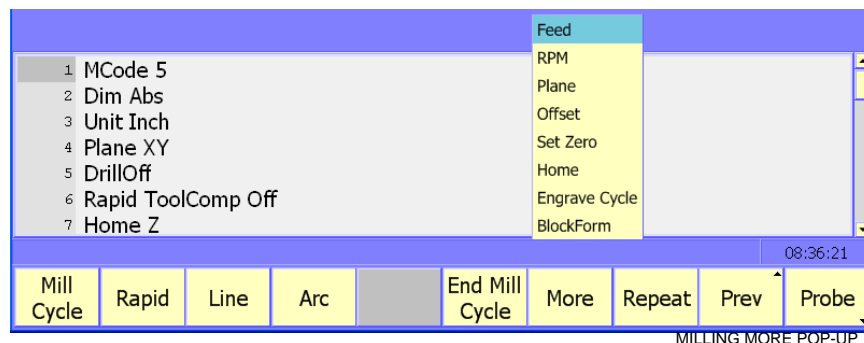

Figure 3-3, Milling (F5)>More (F7) Pop-up Menu
3. Press **More (F7)** to display the More pop-up menu. Refer to **Figure 3-3**.
2. Press **More (F7)** to display the More pop-up menu. Refer to **Figure 3-3, Milling (F5)>More (F7) Pop-up Menu**.
2. Press **More (F7)** to display the pop-up menu. Refer to **Figure 3-3, Milling (F5)>More (F7) Pop-up Menu**.
2. Press **More (F7)** to display the **More** pop-up menu. Refer to **Figure 3-3, Milling (F5)>More (F7) Pop-up Menu**.